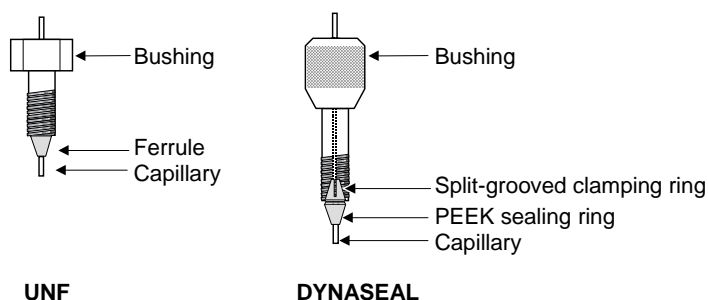

Fig. 7 Principle of the UNF and DYNASEAL connection systems
Fig. 7 shows a schematic diagram of the UNF and DYNASEAL connection system.
2. Push the bushing, the split-grooved clamping ring, and the sealing ring onto the capillary. Pay special attention to the sequence and alignment of the fittings (Fig. 7).
2. Push the bushing and the ferrule onto the capillary. Pay special attention to the sequence and alignment of the fittings (Fig. 7).